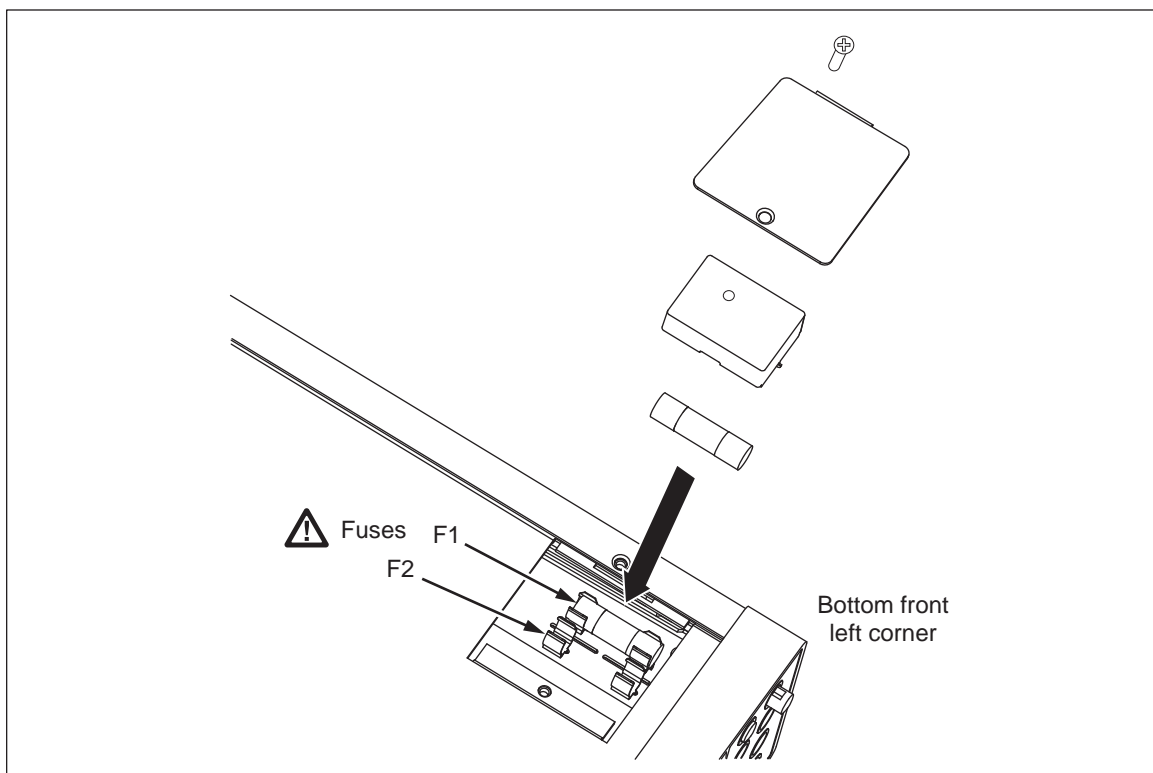

Figure 2-2. Replacing the Current Input Fuses
3. Unscrew the retaining screw on the fuse access door as depicted in Figure 2-2.